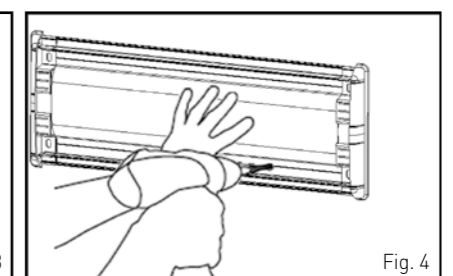

Fig. 4
- Measure the length between each end piece or angle piece and then cut the rail using a mitre saw. Drill through the rail along the grooves, starting at 20 mm from the edge and then spacing the holes at no more than 750 mm apart. Place the rails over the centrelines on the wall and then mark each hole on the wall. Drill into the wall, fit the plugs and then fix the rails onto the wall (see Fig. 4).